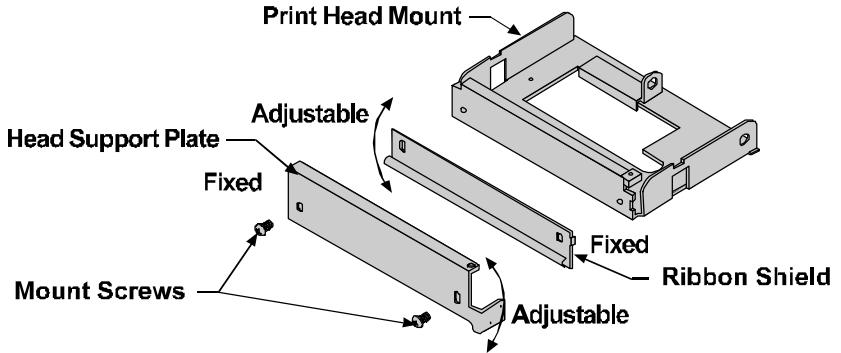

Figure 3-2 Printhead Mount Assembly
2. To adjust the Ribbon Shield (see Figure 3-2), temporarily move the ribbon and loosen the screw located on the left end of the Head-Support Plate, (do not remove the screw). This end of the shield can be adjusted up or down in order to even out the ribbon tension across the full width of the ribbon.
The Head-Support Plate supports the outer end of the Printhead when narrow media is used. Without this support, the Printhead would bear down on the drive roller, causing diminished print quality and premature wear. The Head-Support Plate needs to be engaged only when the media width is less than 3.5" (89 mm), (see Figure 3.2).